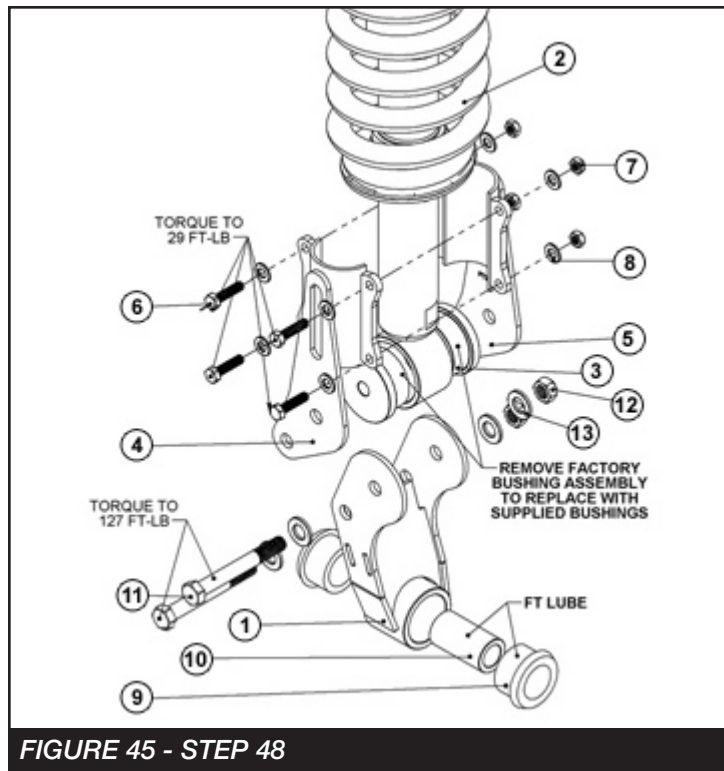

FIGURE 45 - STEP 48
48. Locate the Fabtech upper shock extensions (FT30382BK and FT30383BK), the lower shock extension (FT30384BK) and all hardware listed below. Locate the factory coil over shocks. Assemble the shock extension using the hardware listed below and **FIGURE 45**.